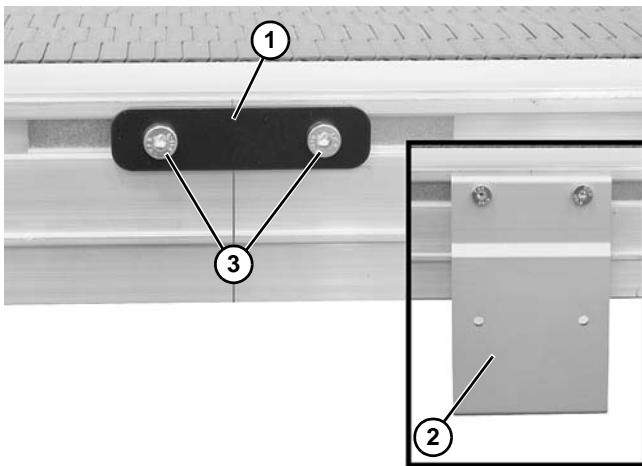

Figure 7
2. Join conveyor sections and install connector brackets (Figure 7, item 1) or connector/mount brackets (Figure 7, item 2) and screws (Figure 7, item 3) on both sides as indicated.
3. Tighten screw (Figure 7, item 3) to 60 in-lb (7 Nm) on both sides of conveyor.